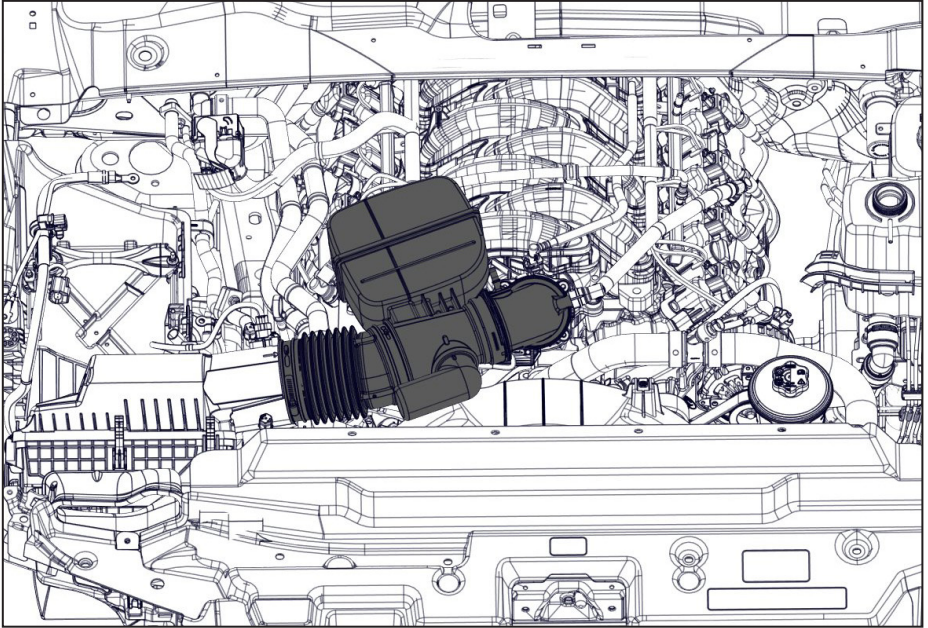

Figure 2 — Remove intake tube
- Remove the intake tube and cover the ends (Figure 2).